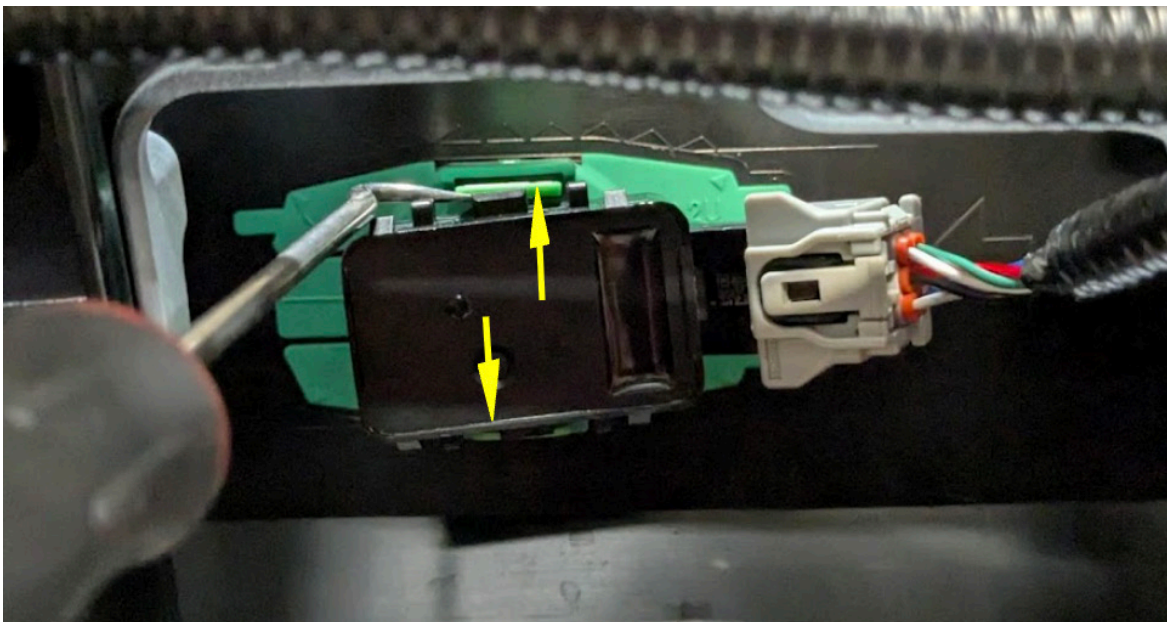

Figure 26
18. Carefully spread the green locking tabs on the parking sensor housings to remove the sensors from their housings. (Figure 26)